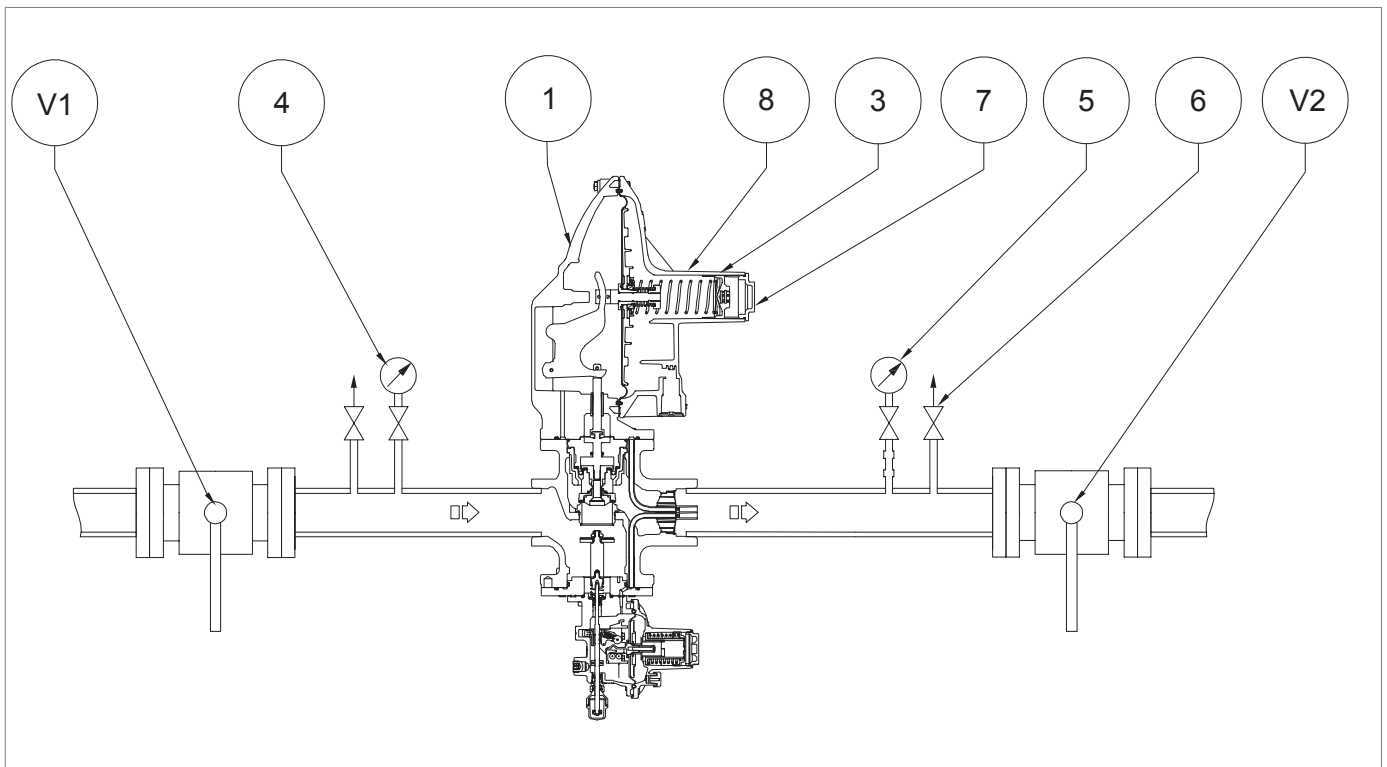

Fig. 8.26. Commissioning of the CIRVAL regulator with LA slam-shut valve
4	If the slam-shut valve: <ul style="list-style-type: none"> trips before the expected pressure value: unscrew (counterclockwise direction) the adjustment ring nut (fig. 8.20, ref. 3) so as to unload the spring (fig. 8.26, ref. 17); does not trip at the expected pressure value: screw (clockwise) the adjustment ring nut (fig. 8.20, ref. 3), so as to compress the spring more (fig. 8.26, ref. 17).
6	Open the slam-shut valve by acting on the reset knob (fig. 8.26, ref. 16) and keep it open manually.
8	Arming the slam-shut valve by acting on the reset knob (fig. 8.26, ref. 16).